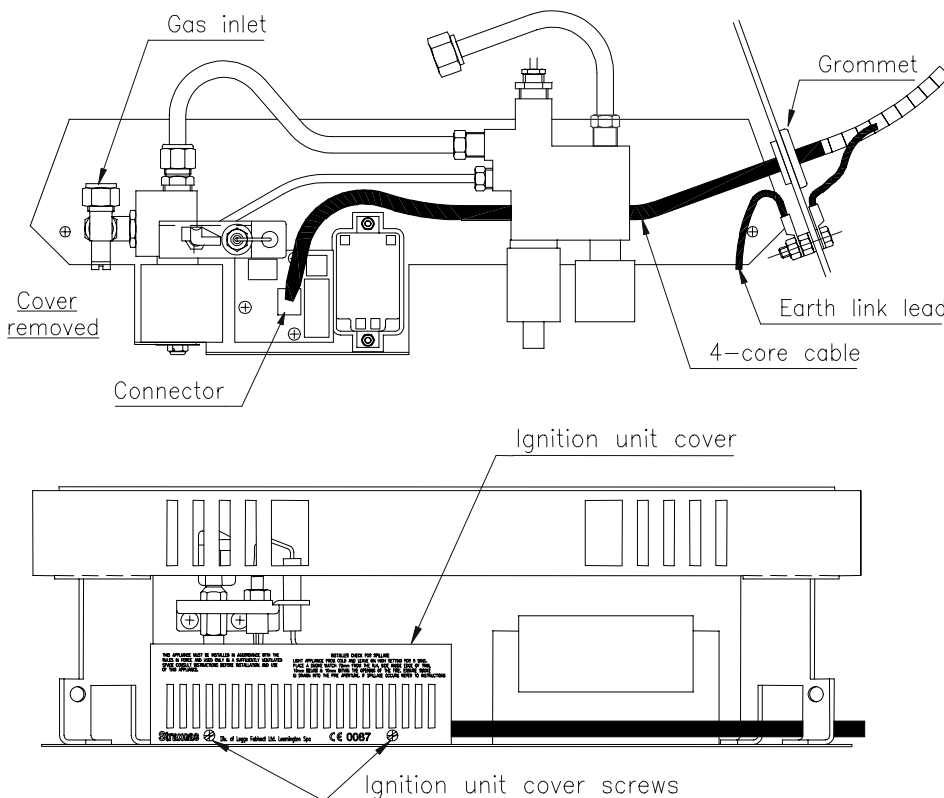

Fig. 14 Burner & ignition unit
4. Remove the ignition unit cover beneath the burner (Fig. 14). Route the 4-core cable as shown and plug into the printed circuit board. Fit the cable grommet into the hole in the side of the convection box and replace the cover. Do not allow the cable to loop up under the burner.